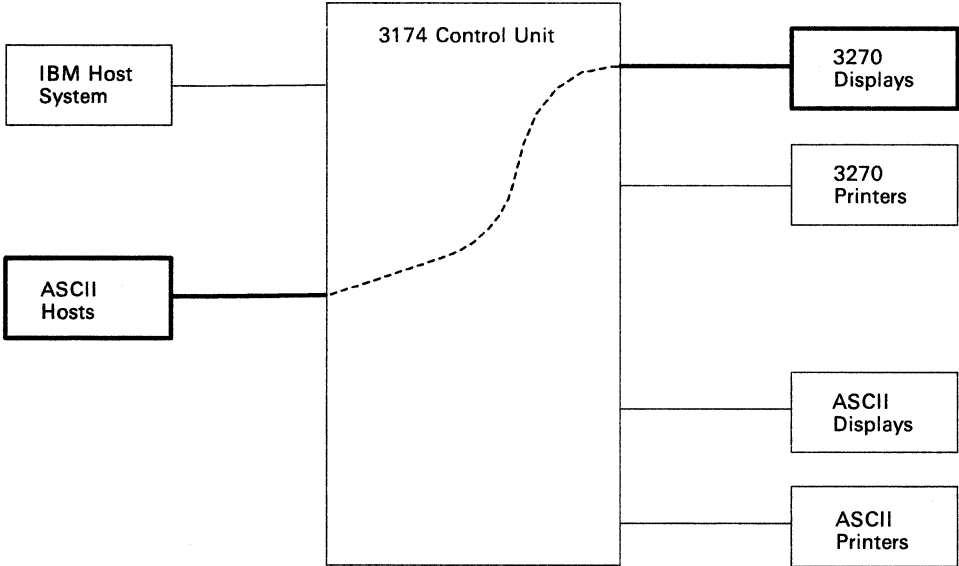

Figure B-3. 3270 Terminal Communicating with an ASCII Host
- 3270 displays and/or printers to ASCII hosts (see Figure B-3)